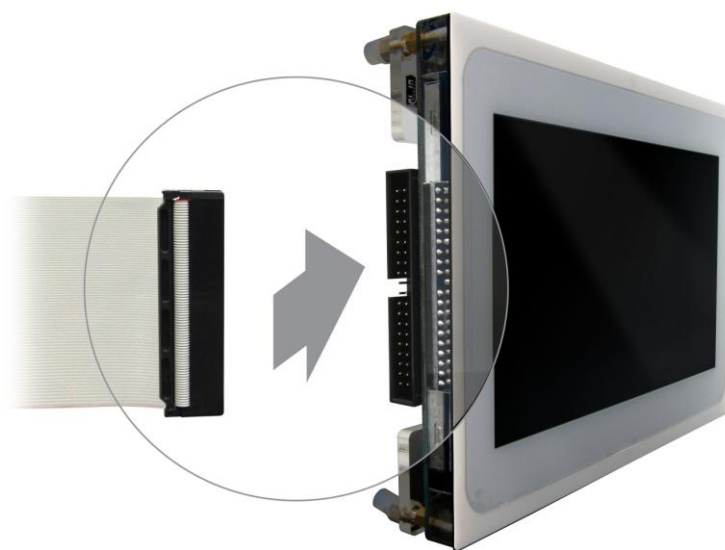

Figure 1-4 MTL connection for the IDE cable
1. Connect the IDE cable to the IDE connector on the back of the MTL as shown in the **Figure 1-4**.